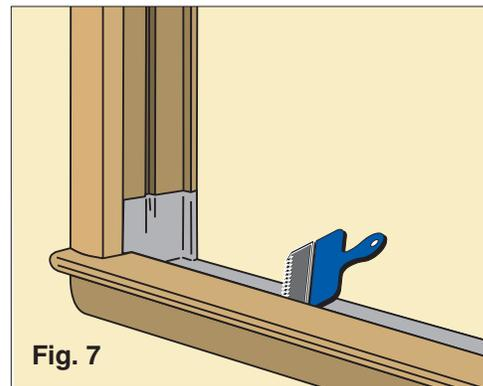

Fig. 7
2. After you flash the opening, install the supplied Starter Strip - Sill Angle on the outer sill, 1/8" behind the blind stop. Caulk the inside edge of the stool and outside along sill angle. (Fig. 7) Check Sill slope. Make sure sill angle leg is vertical.